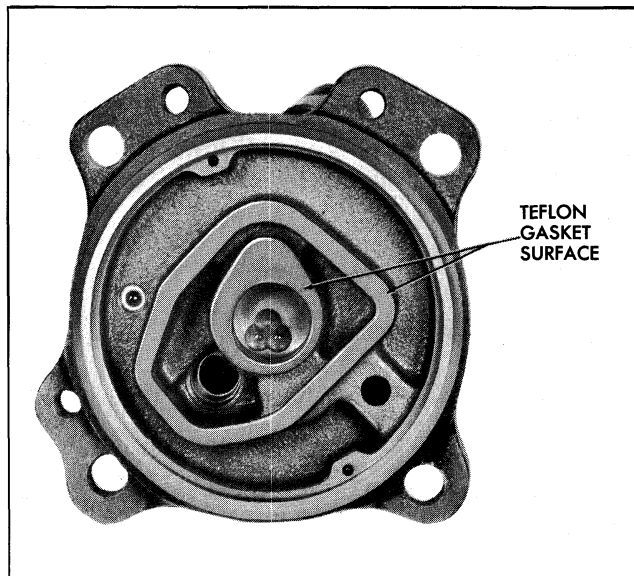

Fig. 5-8 Teflon Seal on Head Casting Web
5. Examine teflon surface on the rear head casting webs. If any damage is observed, the head should be replaced (Fig. 5-8).